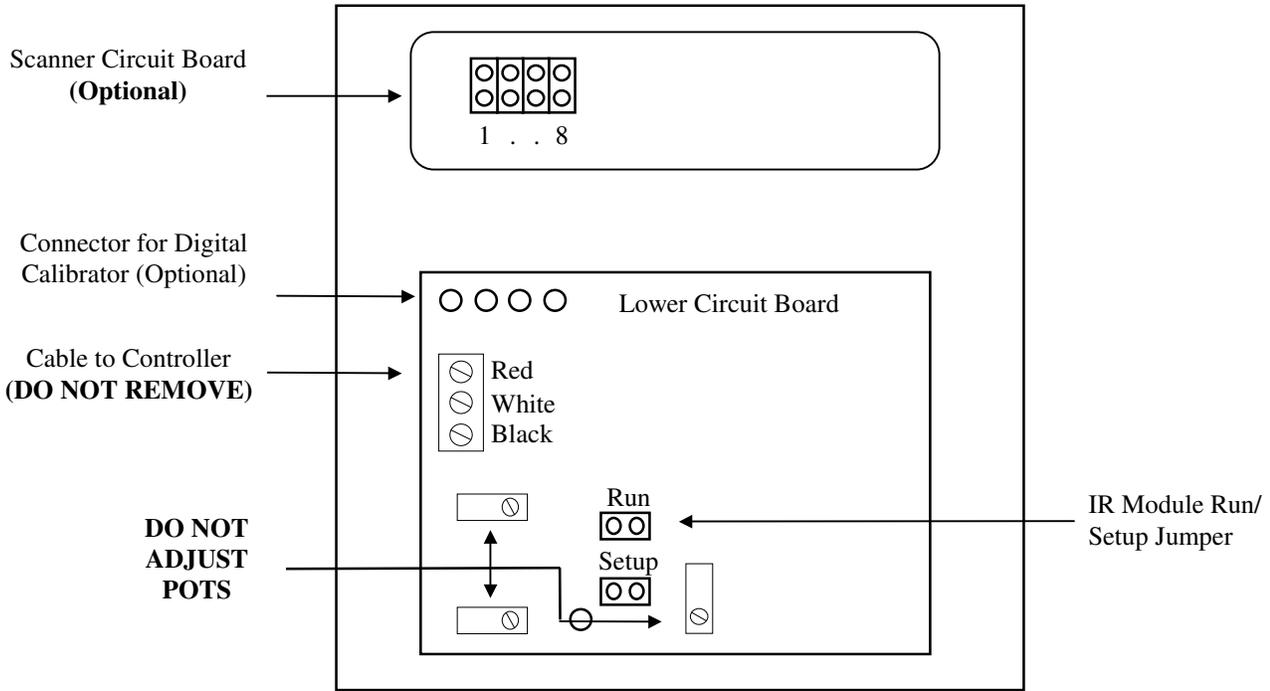

Figure 5 - IR Module Circuit Boards
- B. Scanner Jumper Setup - Factory setting is for four (4)or eight (8) sample ports. If 1,2,3,5,6 or 7 sample ports are required, place jumper on corresponding positions located on Scanner Circuit Board(s) in **IR Module** (Figure 5). IR Module Scanner will sequence through the selected port settings.
1. Open cover on Haloguard[®] IR Module. Move Jumper from RUN to SETUP (See Figure 5).